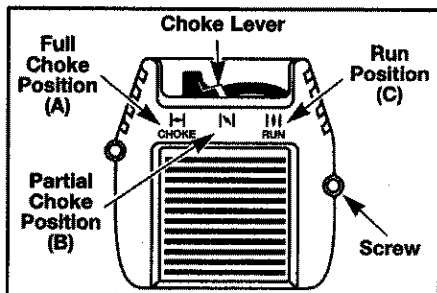

Fig. 8
4. **PLACE THE CHOKE LEVER IN THE FULL "CHOKE" POSITION (A)** (Fig. 8).
6. **PLACE THE CHOKE LEVER IN THE "PARTIAL" CHOKE POSITION (B)** (Fig. 8).
9. After the engine warms up for 5 to 10 seconds, **PLACE THE CHOKE LEVER IN THE "RUN" POSITION (C)** (Fig. 8). Be sure to keep throttle trigger depressed while warming up engine.